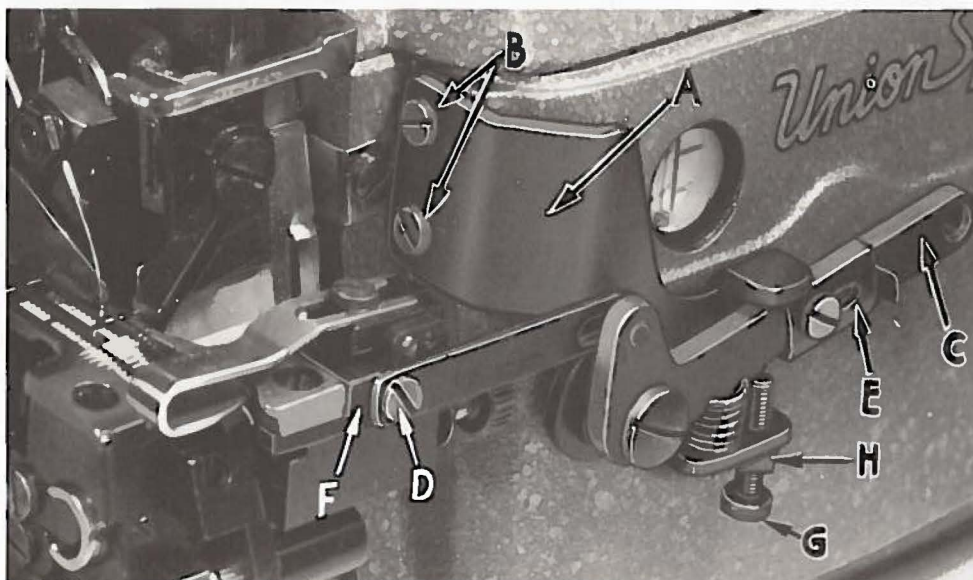

Fig. 16
Mount the retractable edge guide lever bracket (A, Fig. 16) onto the casting with
Adjust the amount of retraction of the edge guide bracket (F, Fig. 16) by positioning the adjusting stop screw (G). The position of the screw will depend on the thickness of the seam to be crossed. The locking nut (H) should then be tightened into place.